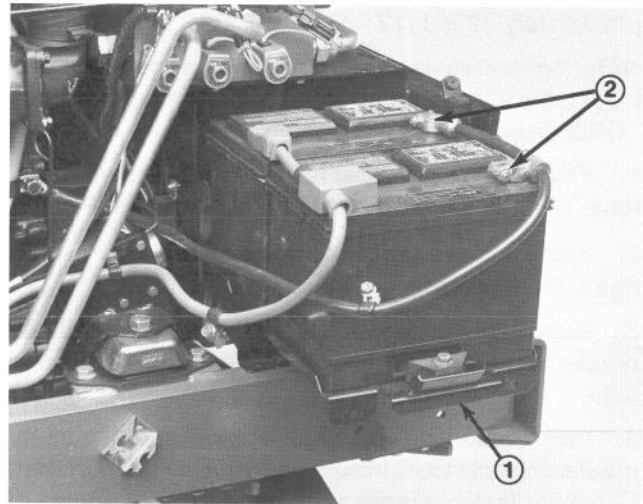

Figure 49
2. Remove capscrews securing battery tray to machine and slide tray out (Fig. 49).
4. Remove negative (–) battery cable connectors from batteries (Fig. 49). Connect a 3 to 4 Amp battery charger to the posts. Charge the batteries at a rate of 3 to 4 Amperes for 4 to 8 hours.